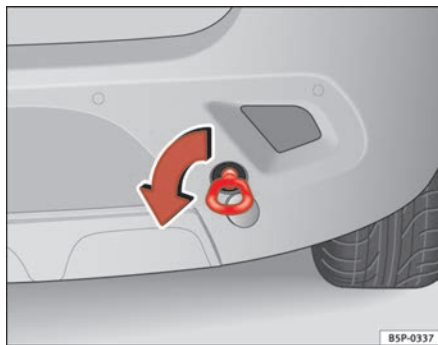

Fig. 208 Rear towing eye
- Screw the towing eye as shown by arrow *anti-clockwise* to the limit position in the front ⇒ fig. 207 or rear ⇒ fig. 208 threaded hole. ■